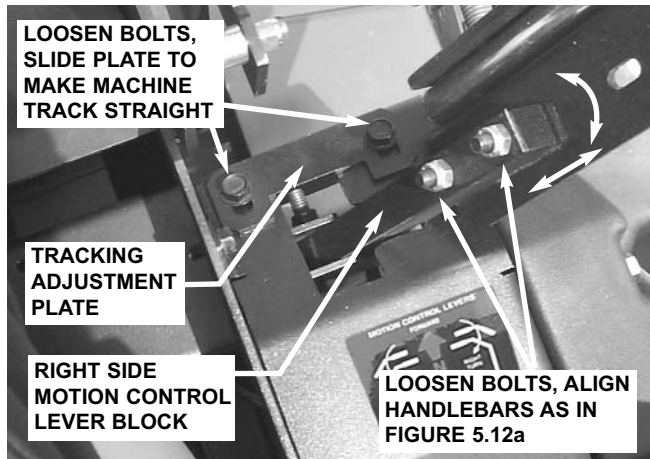

FIGURE 5.12
1. Loosen bolts that secure adjustment plates and slide plates all the way forward. Retighten bolts. See Figure 5.12.
4. If machine tracks to the left, loosen bolts that secure the right adjustment plate. Move plate rearward to slow the right wheel down. Retighten bolts. See Figure 5.12.
1. Loosen bolts that secure handlebar adjustment brackets to lever blocks, and adjust handlebars until aligned. See Figure 5.12. Retighten bolts after alignment is achieved.